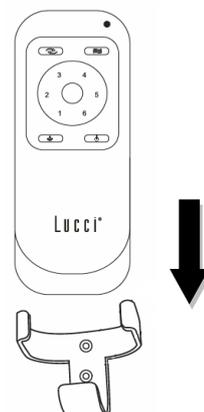

Fig. 10b
- Slide the remote into the holder to rest the remote. (Fig. 10b)